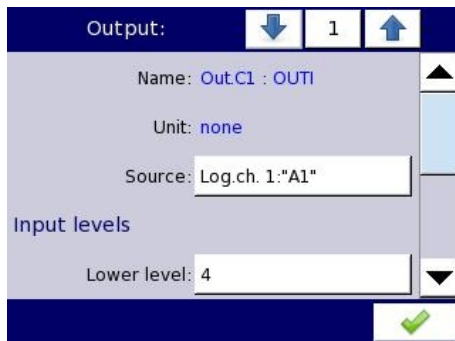

Fig. 7.74. Menu of the Passive current output
- **Name** - each outputs already has a name given by the device and user cannot change it - see Fig. 7.74,
- **Source** - after pressing the button next to the **Source** label a list appears of logical channels (60), where the selected logical channel will be a data source for this built-in output,